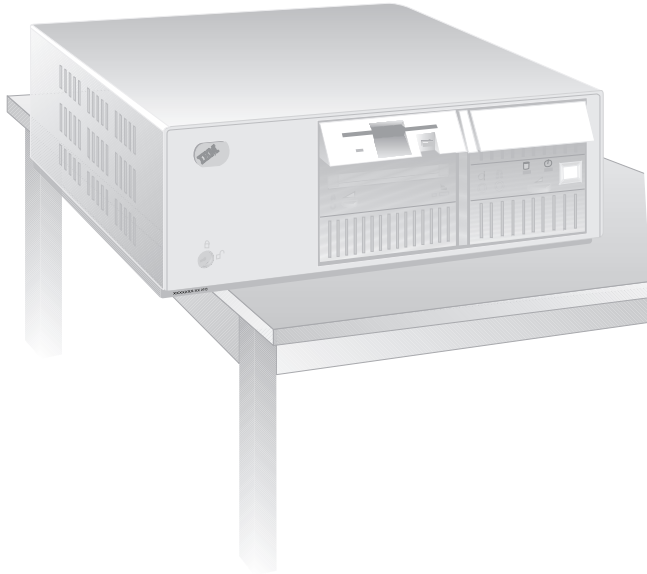

Figure 1-82. Service Processor
- a. ____ **Position** the Service Processor on a desk or table so that the left side is facing you (see Figure 1-82 on page 1-74).